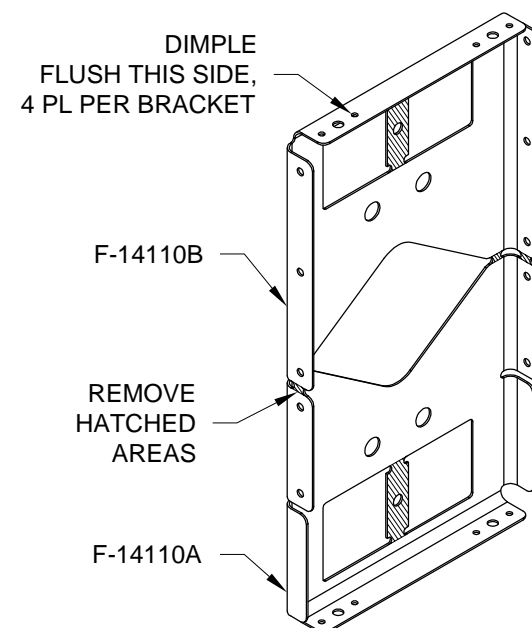

FIGURE 1:
Step 1: Separate the F-14110 Crotch Strap Brackets as shown in Figure 1.
Dimple the #40 holes in the crotch strap brackets as shown in Figure 1.